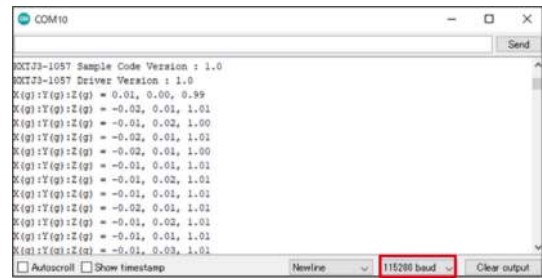

Figure 7. Example of Serial Monitor
4. Set the baudrate to 115200 baud and check log of Serial Monitor. (Figure 7)